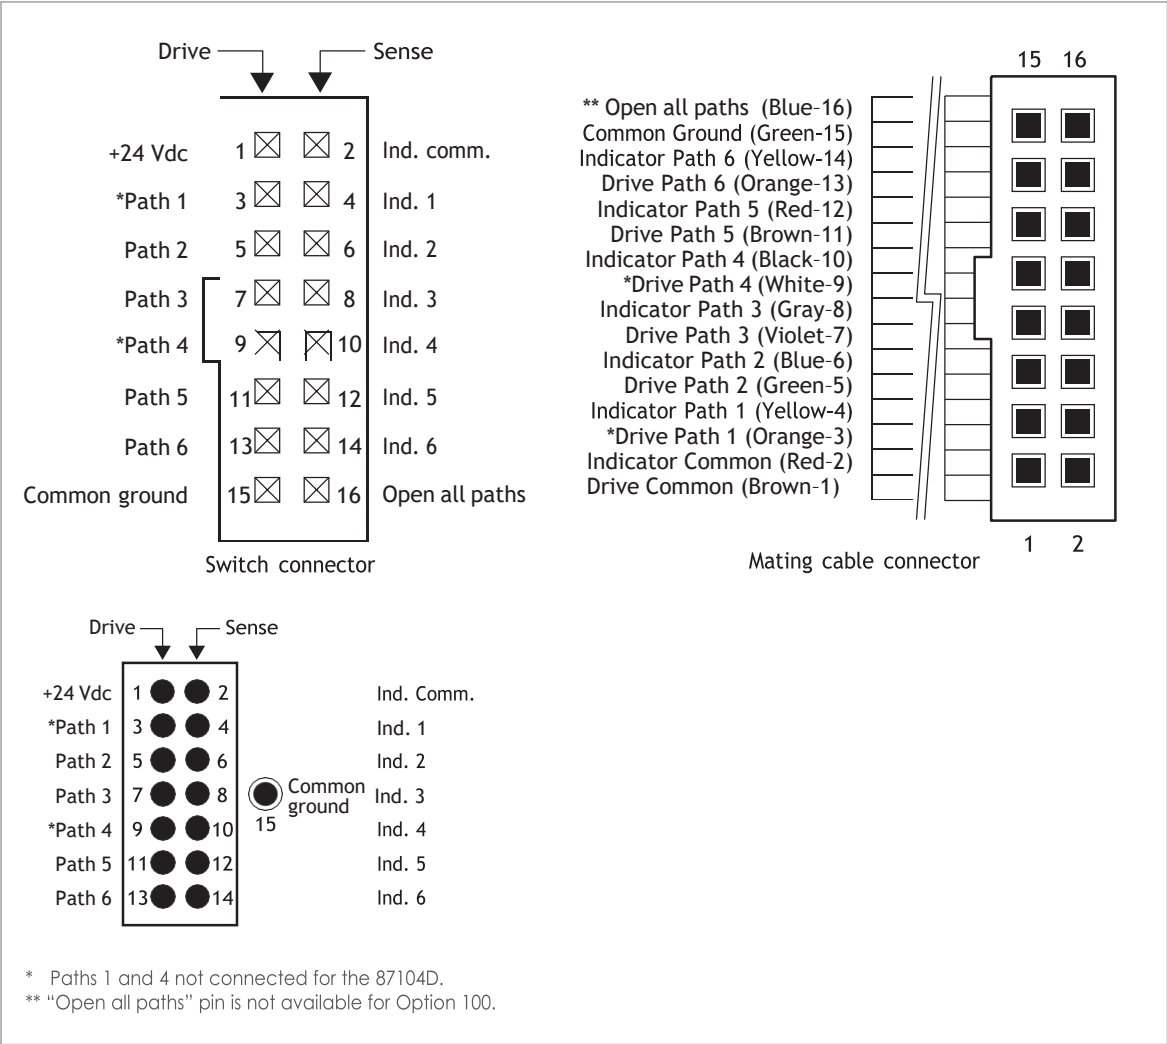

Figure 12. Drive connection diagrams with Option 100
- See Figure 12 for drive connection diagrams.